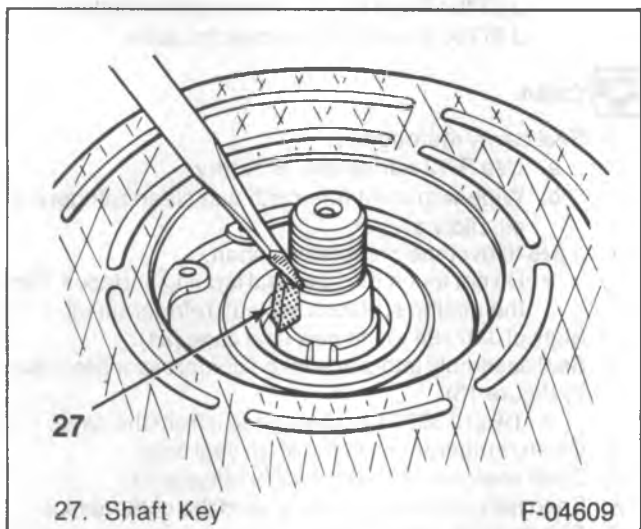

Figure 5—Removing the Shaft Key
3. Shaft key (27) by lightly tapping it loose with a slot screw driver and hammer (figure 5).